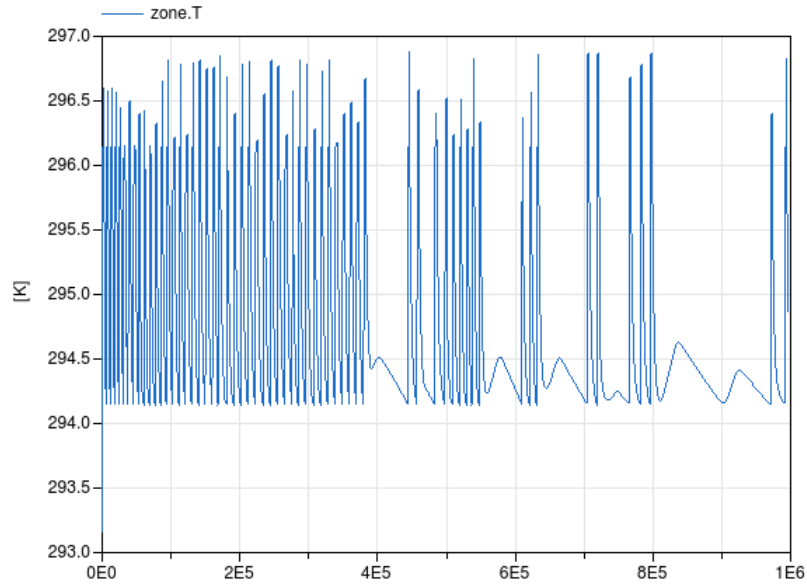

Figure 5: Air temperature in K as function of time in seconds with hysteresis controller
**Reference result** Figure 5 shows the air temperature when the controller is added.